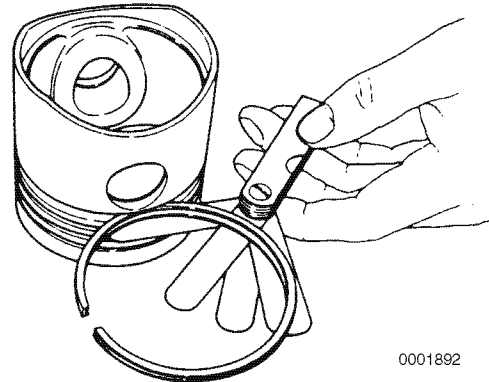

Figure 6-66
9. Place each compression piston ring in the groove as shown (**Figure 6-66**). Use a feeler gauge to measure the clearance between the piston ring and the piston ring land. Record the measurements. See *Piston Ring on page 6-10 for specifications*. Replace the piston if not within specification.